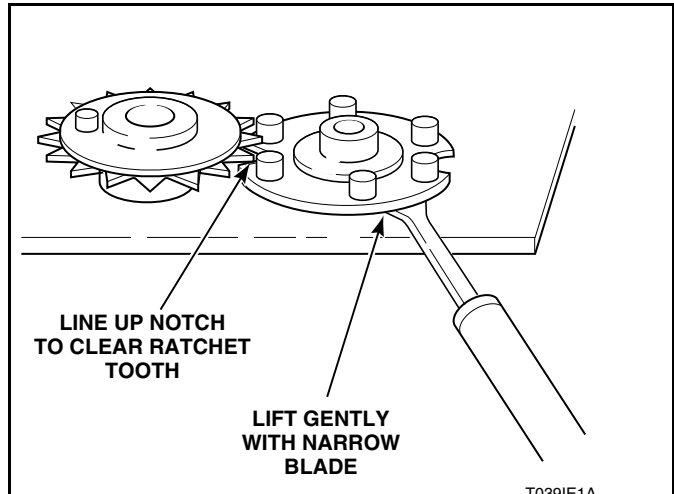

Figure 12
1. Rotate cam by hand until "V" notch lines up beneath the ratchet tooth. Refer to *Figure 12*.